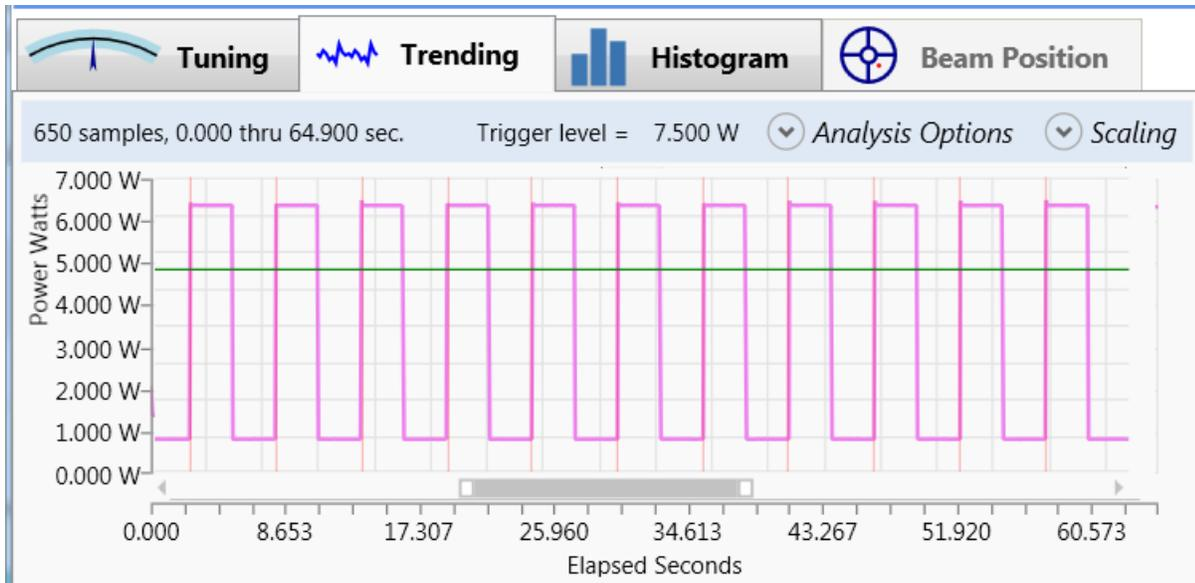

Figure 6-16. Display Trigger Markers
4. Confirm that each pulse has a trigger marker. This is represented by a **magenta** vertical line plotted at each trigger event, as shown in Figure 6-16.